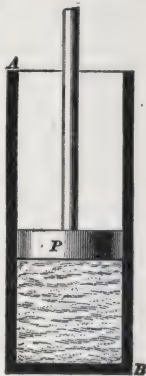

FIG. 1.
**4. Effects of Heat.**—Suppose we take a vessel filled with some substance, say water. Let the vessel be a cylinder fitted with a piston, as shown in Fig. 1. The water is, say, at the freezing point, and the millions of molecules composing the water are moving to and fro with a comparatively small velocity. Place the vessel over a fire or furnace. Heat is communicated to the molecules of water, and they begin to move faster and faster. That is, their kinetic energy increases, and if a thermometer is inserted in the vessel, it will be found that the temperature of the water rises. Consequently, one effect of heat is to raise the
6. Suppose that the piston in Fig. 1 is removed from the cylinder, so that the water will be in contact with the atmosphere, and that a thermometer is inserted. As the water becomes more and more heated, the temperature indicated by the thermometer will rise until it reaches  $212^{\circ}$ . So far, most of the heat has been used to raise the temperature of the water. But now, no matter how much heat is added to the water, the mercury stands at  $212^{\circ}$ , and cannot be made to rise higher. This is the reason: When the temperature reaches  $212^{\circ}$  the molecules of water have been set into such rapid motion that the force of cohesion is no longer able to hold them and they tend to separate. In other words, the water changes to a gas (steam), and all the heat is being used to effect this change. The temperature of the steam will remain at  $212^{\circ}$  until all water is changed to steam; then, if more heat is applied, the temperature of the steam will begin to rise.
8. **Summary.**—By a study of the results of applying heat to the substances that have just been considered, we see that the effects of heat most commonly observed are: (1) It increases the rate of motion of the molecules, an effect that is indicated by an increase in temperature. (2) It increases the lengths of the paths of, and the distance between, the molecules, thus causing the body to expand and fill a greater space. (3) It overcomes the attractive forces that tend to hold the molecules of a substance together, and thus changes it from a solid to a liquid or from a
**12. Relation Between Heat and Work.**—Suppose that, in the experiment shown in Fig. 1, the piston had been allowed to remain in the cylinder while the water was being changed to steam. Steam at 212° occupies nearly 1,700 times the space that the water originally occupied. Hence, the piston would be lifted in the cylinder to give room for the steam that was being formed. But to raise the piston requires work. Here, then, is an example of work being performed by heat. On the other hand, work will produce heat. If two blocks of wood are rubbed briskly together, they will become warm, and may even ignite. The work done in overcoming friction causes the journals and bearings of fast-running machines to heat. A small iron rod may be heated to redness by pounding it on an anvil.